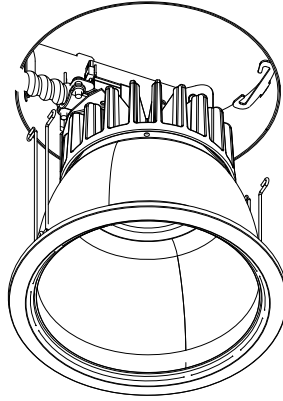

Figure 5
5. For trims with torsion springs, compress torsion spring and insert into receiver in frame ring and push up to seat. See Figure 5.